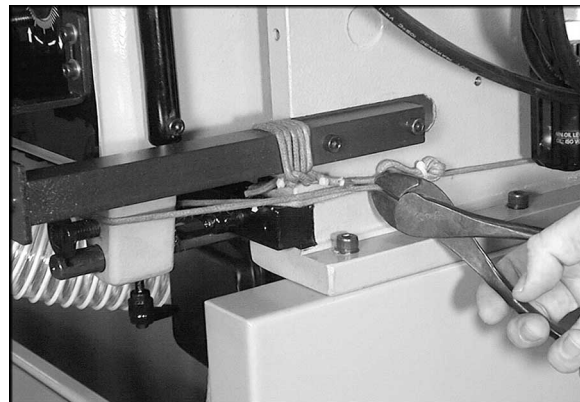

Figure 3
4. A group of cords holds the headstock secure to the machine frame to prevent it from moving during shipping. These cords should now be cut and removed (see Figure 3).